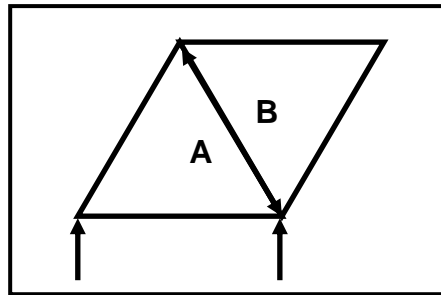

FIGURE 4.5
- 4.5 Which type of member of a steel framework is represented by **AB** in FIGURE 4.5 below?